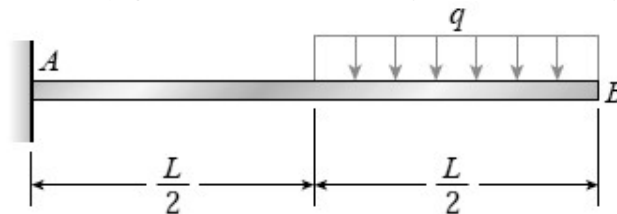

Figure 5
Q.5(b) Draw the shear-force and bending-moment diagrams for a cantilever beam AB carrying a uniform load of intensity q over one-half of its length as shown in Figure 5.